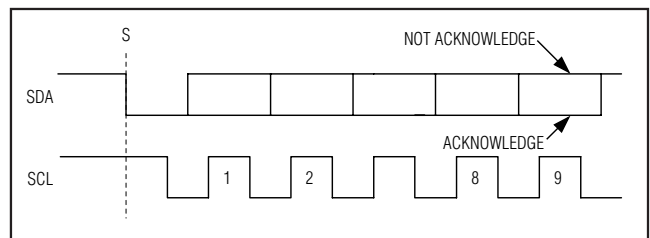

Figure 6. Acknowledge Bits
Successful data transfers are acknowledged with an acknowledge bit (A) or a not-acknowledge bit ( $\bar{A}$ ). Both the master and the MAX11600-MAX11605 (slave) generate acknowledge bits. To generate an acknowledge bit, the receiving device must pull SDA low before the rising edge of the acknowledge-related clock pulse (ninth pulse) and keep it low during the high period of the clock pulse (Figure 6). To generate a not acknowledge bit, the receiver allows SDA to be pulled high before the rising edge of the acknowledge-related clock pulse and leaves it high during the high period of the clock pulse.